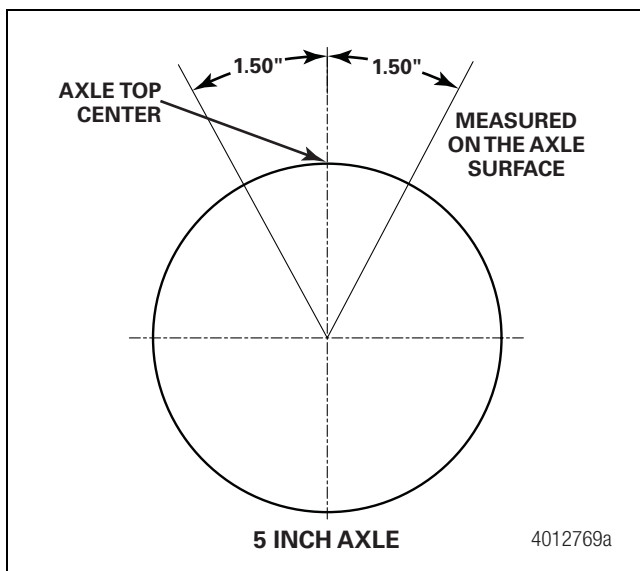

Figure 7.6
- Welding is not allowed on 5-inch (127 mm) diameter axles within 1.50-inches (38.1 mm) of the top-center of the axle. Figure 7.6.